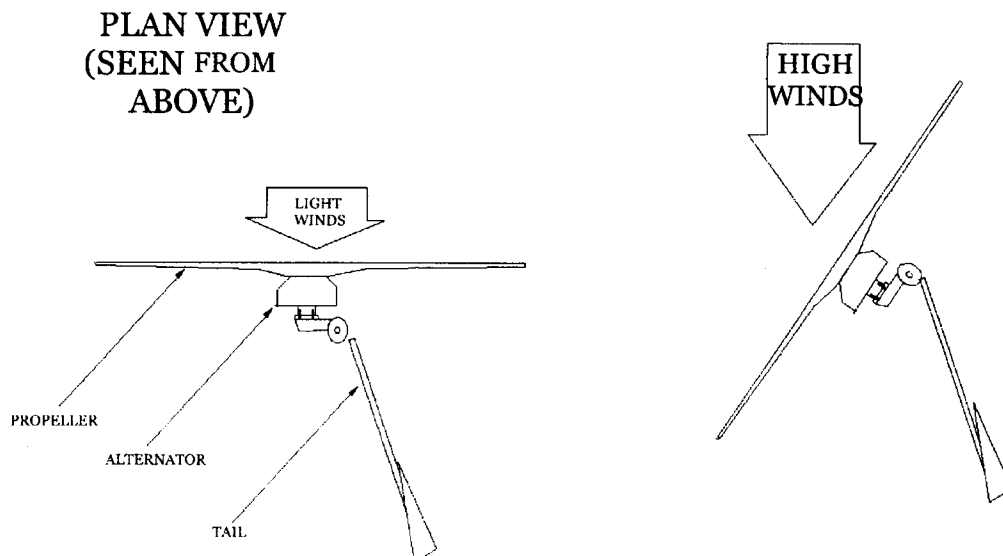

Figure 29
The tail must be designed to hold the windmill into the wind until the wind pressure exceeds a certain limit. After that, the tail must yield, allowing the windmill to turn away from the wind. The action needs to be proportional, so that we continue to generate power, but do not expose the windmill to undue stress. Figure 29 shows what is intended.
- Tail boom as seen from ABOVE should be almost square to propeller but cocked 10 degrees into the wind as shown in figure 29.